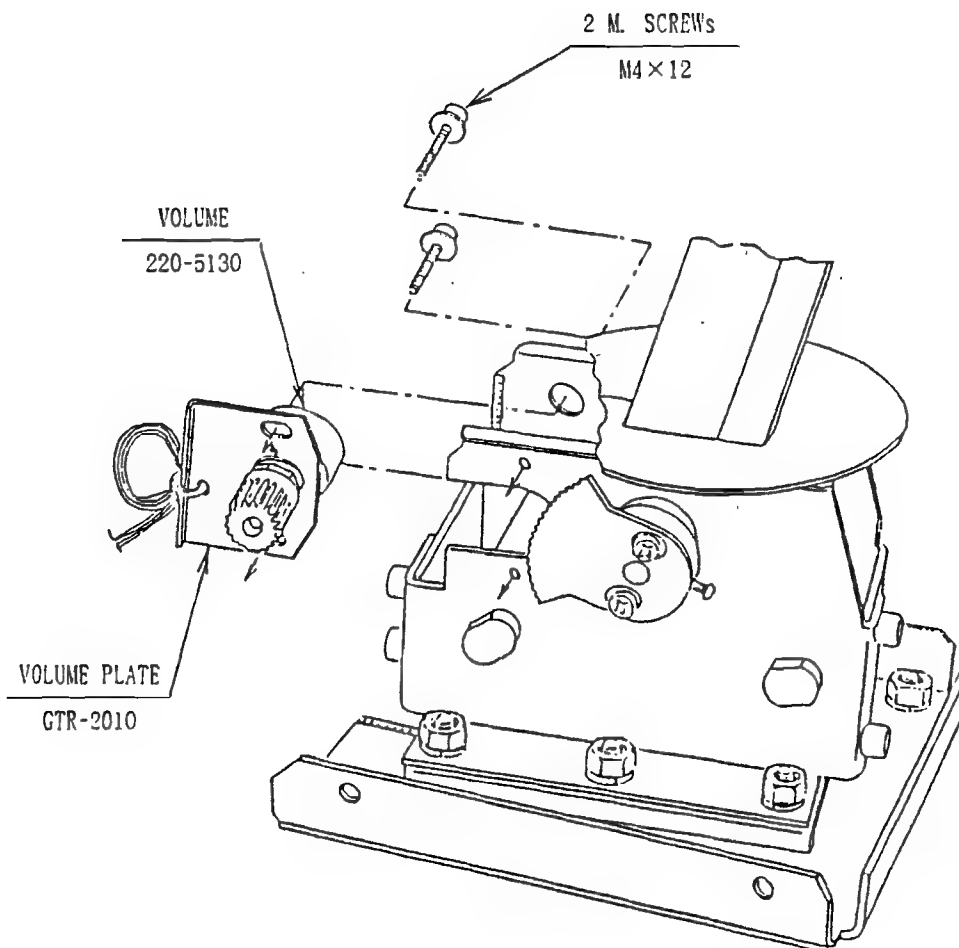

FIG. 6
(1) REMOVING THE VOLUME FOR VERTICAL DIRECTIONS
- ① Take off the 2 machine screws (M4×12) and remove the VOLUME together with the VOLUME PLATE (see FIG.6).